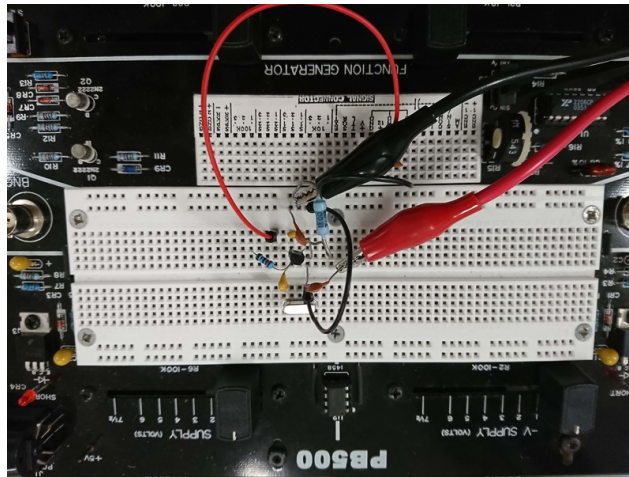

Figure 3
- Use the Figure 3 as a guide to build a compact circuit on the proto-board.